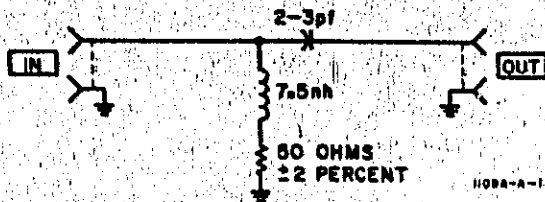

Figure 3. Typical Schematic Diagram
9. The Model 1109B consists basically of a series capacitance shunted by an inductance and a resistance to form a typical high pass filter network (see Figure 3). When a high frequency signal is applied to the network, the capacitor in the network passes the high frequencies and opposes the low frequencies, while the inductor in the network directs most of the low frequencies to ground, but opposes the high frequencies. The resistance of the network offers a constant 50 ohm impedance to the signal source.